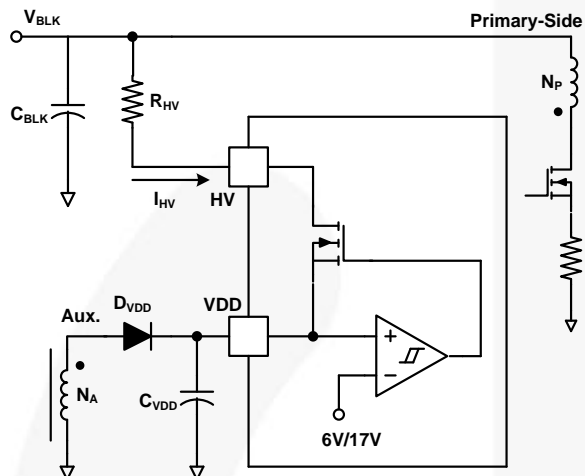
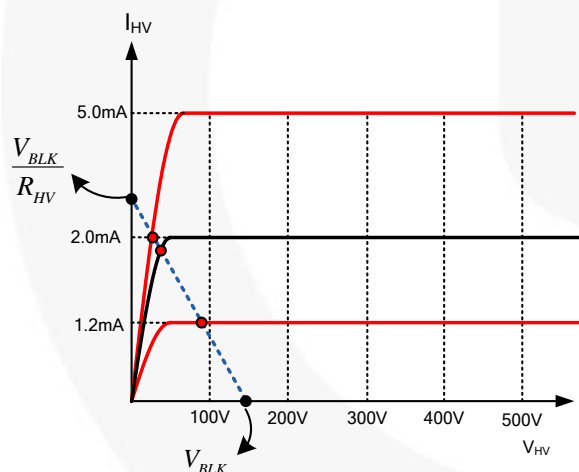

Figure 31. HV Startup Circuit
Figure 32. V-I Characteristic of HV Pin
Figure 31 shows the high-voltage (HV) startup circuit for FAN501 applications. The JFET is used to internally implement the high-voltage current source (see Figure 32 for characteristics). Technically, the HV pin can be directly connected to voltage (V_{BLK}) on an input bulk capacitor. To improve reliability and surge immunity, however, it is typical to use a $\sim 100\text{ k}\Omega$ resistor between the HV pin and bulk capacitor voltage. The actual HV current with a given bulk capacitor voltage and startup resistor is determined by the intersection of V-I characteristics line and load line, as shown in Figure 32.